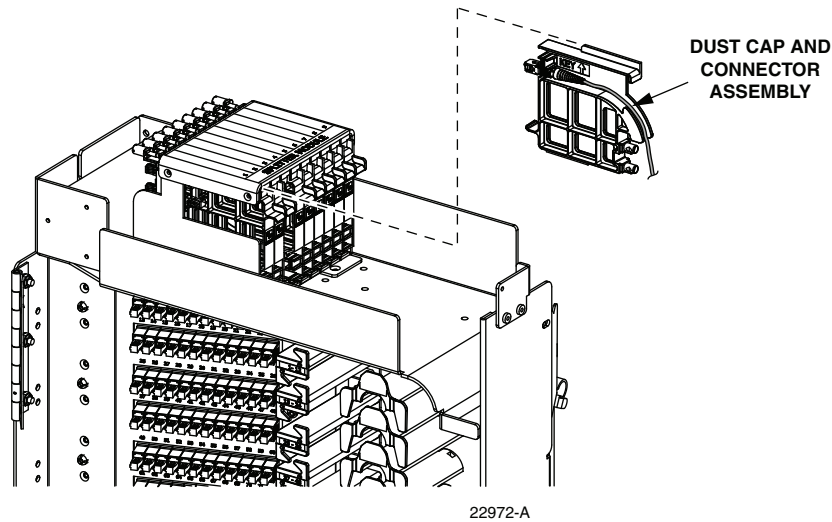

Figure 46. Inserting Dust Cap Assembly Into Splitter Compartment
9. Connect the patch cord connector(s) to the feeder cable connector(s) by inserting the dust cap assembly into the splitter slot as shown in Figure 46.